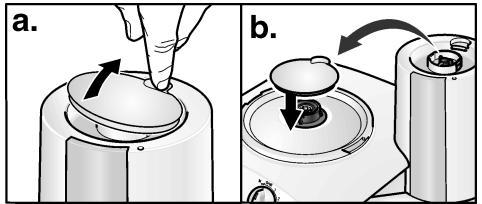

Figure 12
3. If you have not already done so, move the motor drive cover to the high-torque drive. See figure 12.